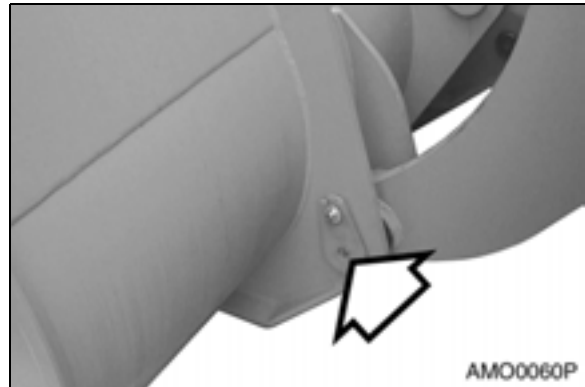

Figure 27
- A. Bucket hinge pins, 2 locations (Figure 27).